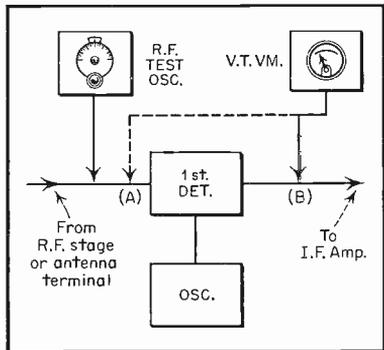

Fig. 6.
6. **Conversion Gain.** Use the arrangement shown in Figure 6. Set the oscillator to any clear frequency within the tuning range of the receiver and use either a modulated or unmodulated signal. Connect the v. t. voltmeter first to point B at the 1st i. f. control grid. Tune the receiver for maximum deflection of the meter and advance the test oscillator output to give a meter deflection of 0.05 to 0.1 volt r. m. s. At this point, record the microvolts setting of the attenuator as E_1 . Transfer the voltmeter to point A at the control grid of the 1st detector and read the voltage at this point as E_2 . Determine the conversion gain by dividing E_1 by E_2 : E_1/E_2 .